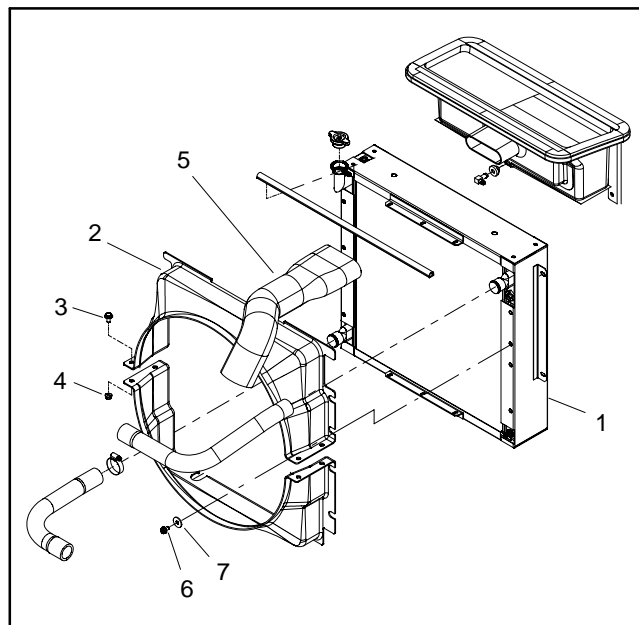

Figure 92
4. Remove air cleaner hose and upper radiator shroud to allow access to hydraulic fan motor (Fig. 92).
5. Remove four (4) cap screws and washers used to secure fan (item 13) to fan hub. Remove fan.
5. Carefully position fan motor and bracket assembly to radiator and secure with six (6) cap screws and flange nuts.
7. Position fan to fan hub and secure with four (4) cap screws and washers.
8. Install upper radiator shroud and air cleaner hose (Fig. 92). Make sure that clearance between shroud and cooling fan is at least 0.180" (4.6 mm) at all points.